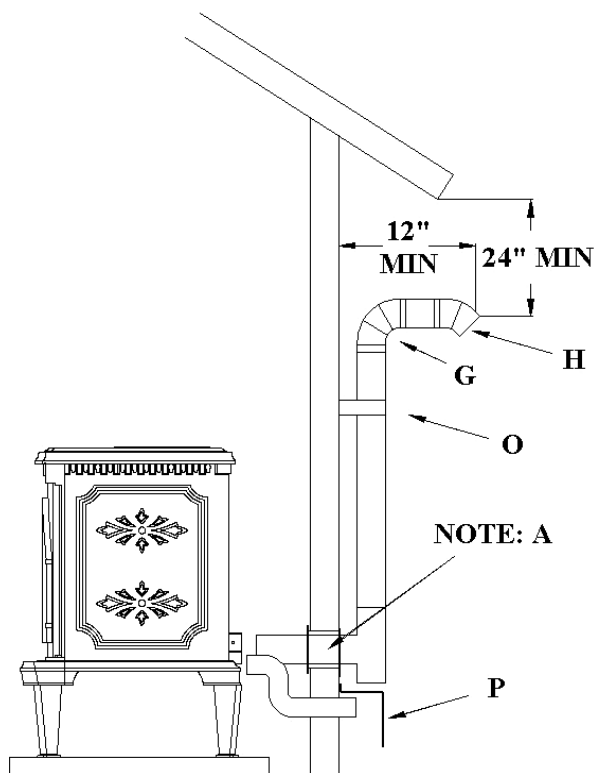

Figure 4
1. When terminating the exhaust system under the house eaves, (Figure 4) the end of the vent pipe system must be at least twelve inches (12") from the wall and 24" below the eave, a 90 degree (G) and a 45 degree elbow may be used (H).